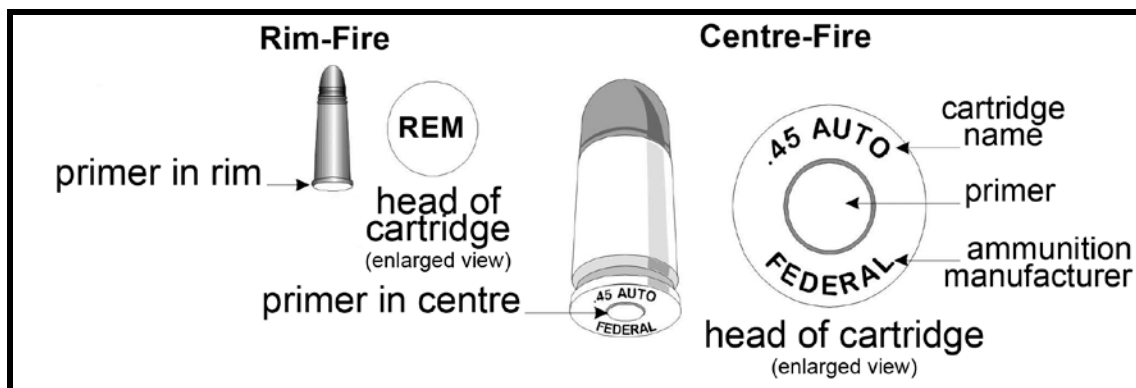
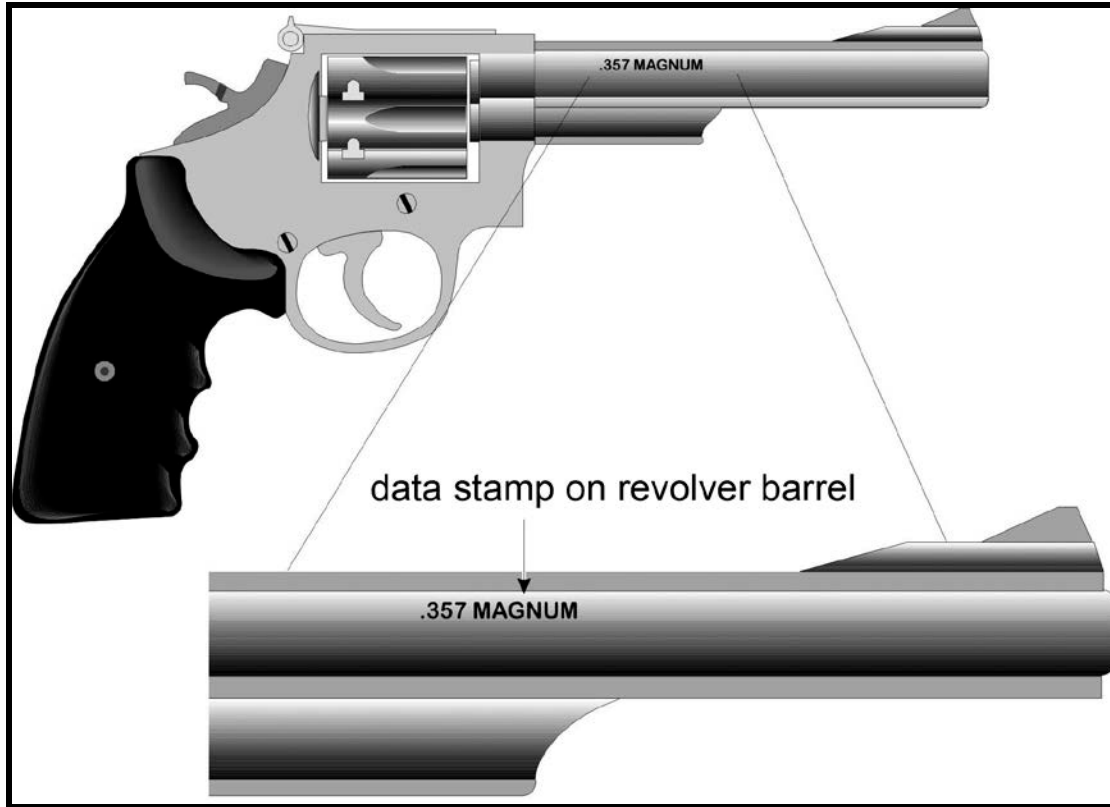

Figure 92. Example of a rim-fire and centre-fire cartridge with head stamp
Figure 93. Example of a barrel data stamp
- b. Manufacturers produce firearms of many calibers. Always make sure that the cartridge name on the head stamp (Figure 92) matches the information on the data stamp, on the barrel or slide of the firearm (Figure 93), if available. This is the most important point to remember. Then choose the right type of ammunition for your firearm and target. The right shape or weight of the bullet is an example. If in doubt, consult a firearms or ammunition dealer.